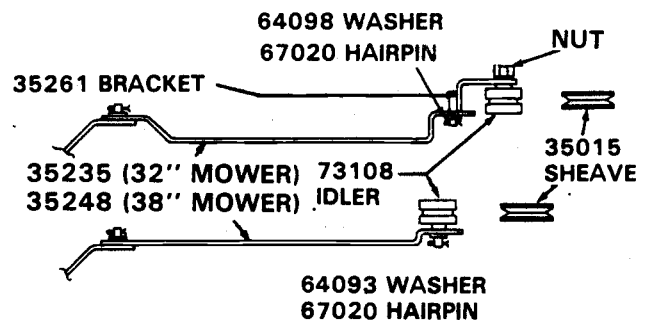

FIGURE 30
INSTALLATION OF MOWER PAN - 38" MOWER — FIGURES 30 & 31
5. Connect the blade brake arm to the stud on the center of the Attachment Clutch Idler sleeve. Secure with a washer and a hairpin cotter. Refer to Figure 30.